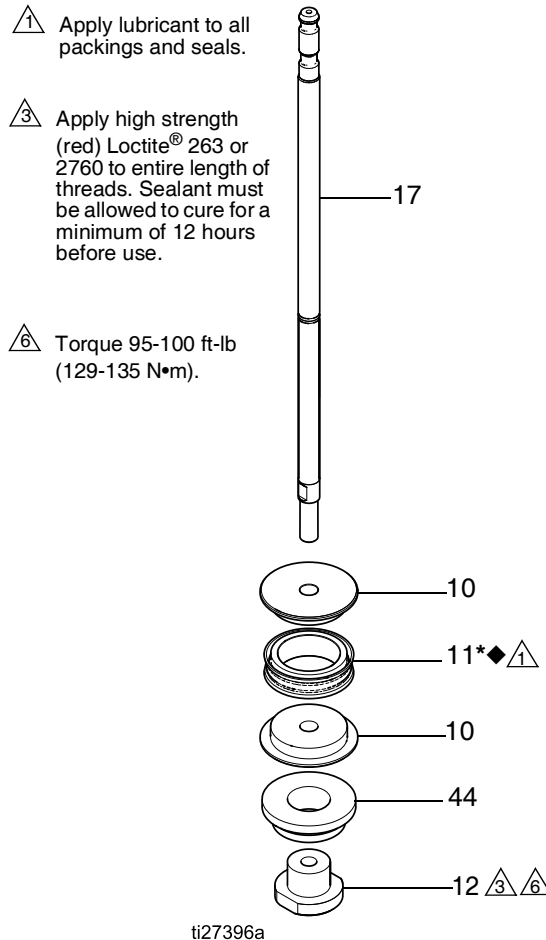
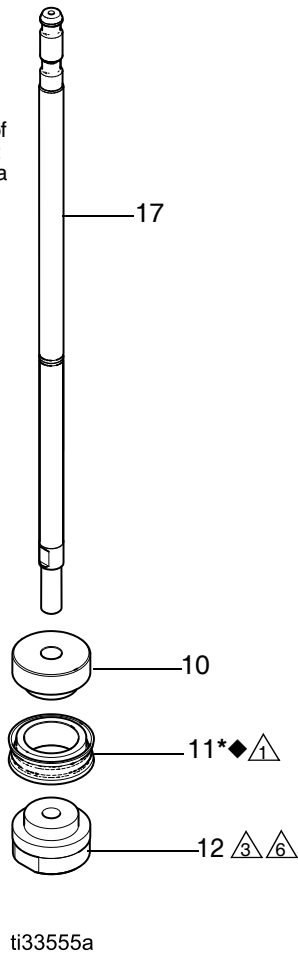

FIG. 6. Disassemble or Assemble the Piston (1000cc, 1500cc, and 2000cc models only)
FIG. 7. Disassemble or Assemble the Piston (750cc model only)
See FIG. 6, page 10 or FIG. 7, page 11.
1. 1000cc, 1500cc, and 2000cc models only: Place the halves of the piston (10) around the piston seal (11♦*) and snap them together. See FIG. 6.
750cc and 750cc HP models only: Place piston seal (11♦*) onto piston (10). See FIG. 7 on page 11.
2. Apply high strength (red) Loctite® 263 or 2760 to the inner diameter threads on the piston nut (12). Screw the rod (17) through the piston (10) and spacer (44; not used on 750cc models) into the piston nut (12). Torque the piston nut (12) to 95-100 ft-lb (129-135 N•m). Sealant must be allowed to cure for a minimum of 12 hours before use.